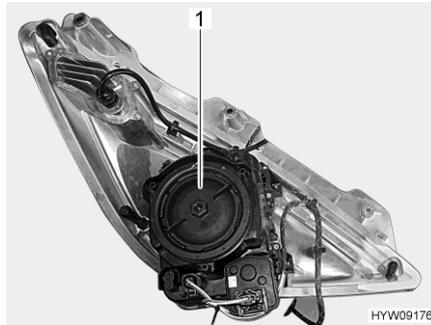

Fig. 149 Front headlight (rear side)
- Turn the housing cover (Fig. 149,1) in an anticlockwise direction and remove.
- Place the housing cover (Fig. 149,1) and tighten in a clockwise direction.